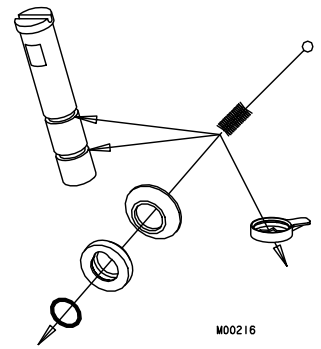

Figure 6-7 Clean O-ring grooves, seal and nozzle with brush.
c. The shaft cup seals, washers, and O-rings, plunger O-ring grooves and nozzles, as shown in figure 6-7.